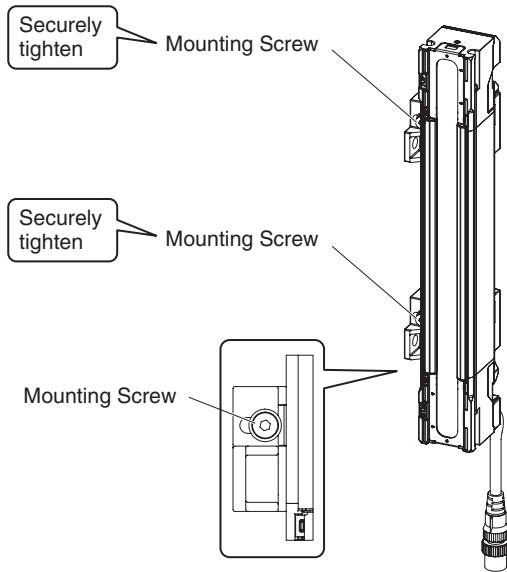

Fig. 3
- Securely tighten the Mounting Screws to fix the Side-Mount Bracket to the sensor housing. The recommended torque to tighten the Mounting Screws is 3.0 N•m. Then loosen the Alignment Screws (Fig. 3)